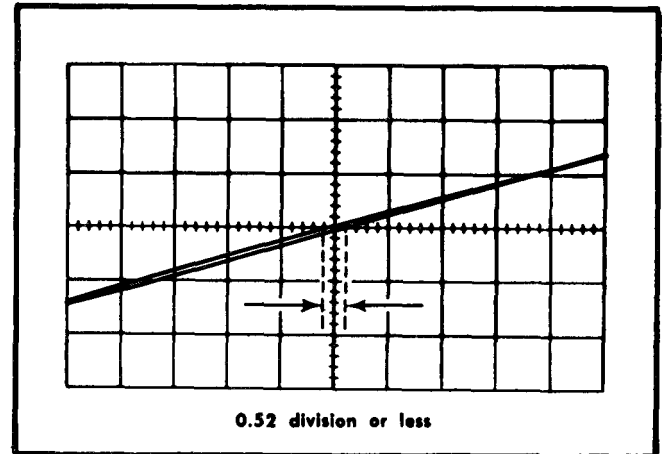

Fig. 6-52. Typical CRT display when checking X-Y phasing.
- e. CHECK-CRT display for an opening at the center horizontal line of 0.52 division or less (3° or less phase shift; see Fig. 6-52).